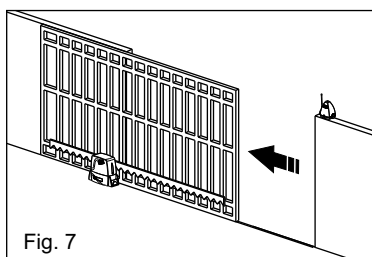

Fig. 7
9) After having reached the limit switch of closing it automatically will execute an opening cycle (Fig.7). After having reached the limit switch in opening it will automatically execute a closing cycle.